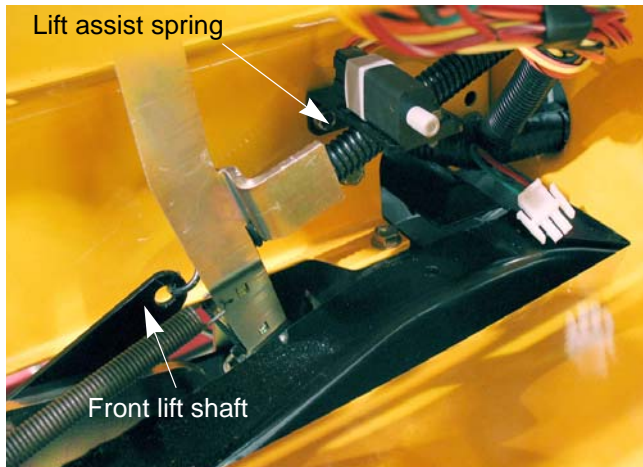

Figure 8.28
3. Remove the deck lift assist spring(s). See Figure 8.28.